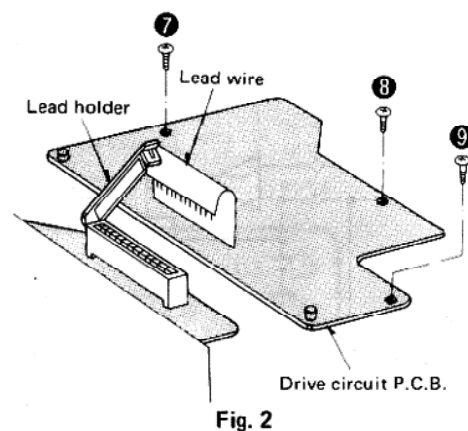

Fig. 2
2. Open the "lead holder" of the lead connector and pull out the lead wire. (Fig. 2)
3. Remove the drive circuit P.C.B. setscrews ⑦ ~ ⑨. Then the drive circuit P.C.B. can be removed. (Fig. 2)